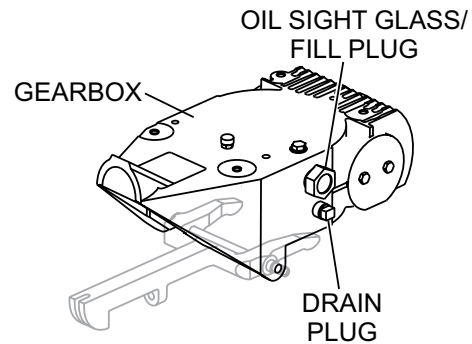

Figure 17. Gearbox
- Determine if the gearbox oil is low by removing the oil plug located on the side of the gearbox. (Figure 17) This plug will be marked by the "check" decal. The correct level of the lubrication oil should be to the bottom of the fill plug.